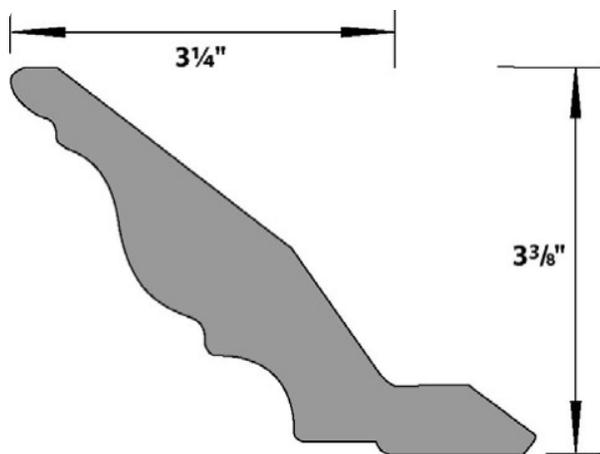

Fig. 6
- At first glance this would appear to total 53¼" (14 + 14 + 25.25) in molding length. But we've overlooked that the crown molding extends out from the top at a 45 degree angle, totaling 3¼" (Fig. 6).